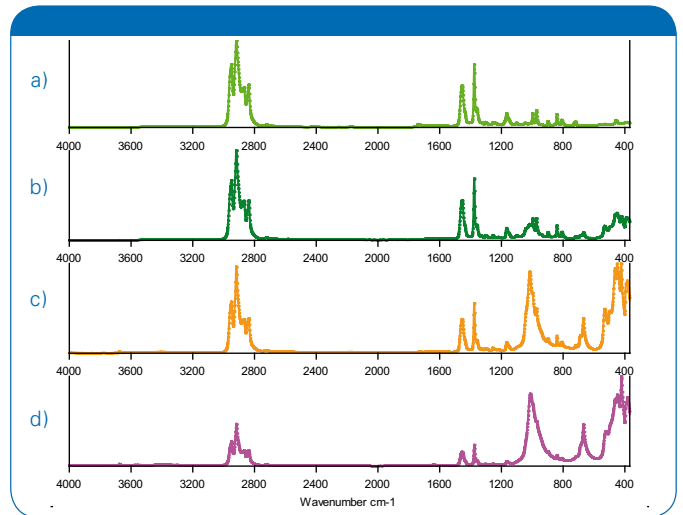

Figure 5: Spectra of polypropylene with varying talcum content: 0 % (a), 10 % (b), 20 % (c) and 40 % (d). All spectra were measured with an ALPHA-P.
Talcum is used as a filler in many polymers and can be both identified and quantified IR-spectroscopically. Talcum is from a chemical point of view the powdered form of the silicate mineral talc with the sum formula $\text{Mg}_3\text{Si}_4\text{O}_{10}(\text{OH})_2$. It is mixed with polymers in order to optimize their properties like for instance elasticity, impact resistance or color fastness. The result of the measurement of four different polypropylene (PP) samples with different talcum contents can be seen in figure 5. The upper spectrum is pure PP; the spectra below have increasing talcum content up to 40 %. The most prominent features are broad bands around 1000 cm^{-1} and 670 cm^{-1} that result from the Si-O stretching modes. Furthermore a broad band around 400 cm^{-1} can be attributed to the Si-O bending modes. It is obvious that the amount of talcum directly relates to the intensity of the named bands, a fact that can be used for a quantitative analysis.